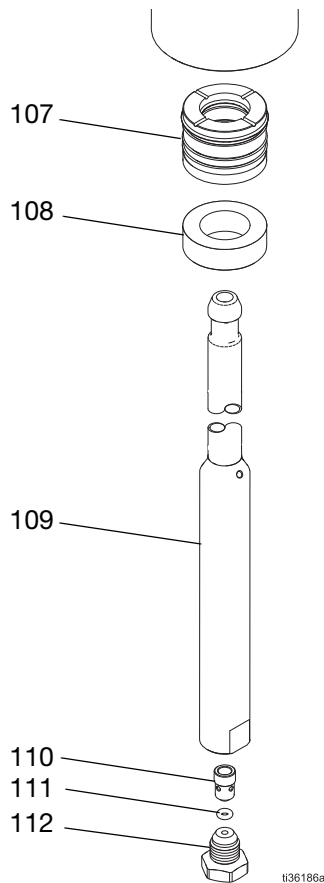

FIG. 7
11. Install the new secondary seal stack (107), including bearing (108). Use grease during installation.
12. Install two new o-rings (118) on the lower fluid cylinder (113). Orientation does not matter for this part.
13. Apply anti-seize compound to both lower fluid cylinder (113) threads and install into the fluid cylinder (101). Torque to 100 ft-lbs (136 N•m).
14. Inspect and replace the plunger o-ring (111), as required, and insert the plunger poppet (110) into the plunger (109) as shown in FIG. 7. Apply medium strength (blue) thread locker to the check seat (112). Torque to the following values depending on the size of the pump lower: